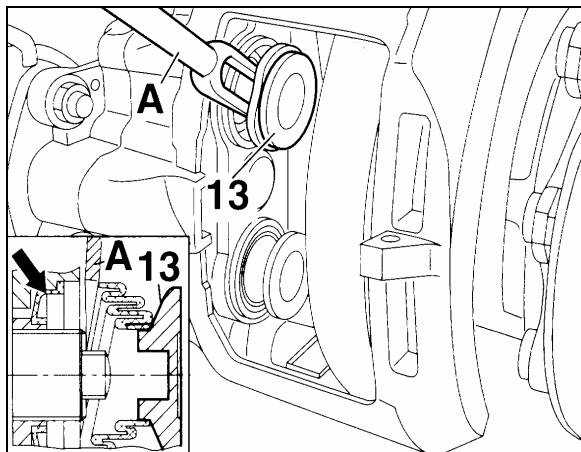

FIGURE 33: RUBBER BOOTS
- The rubber boots (13, Fig. 33) should show no damage, check the attachment.